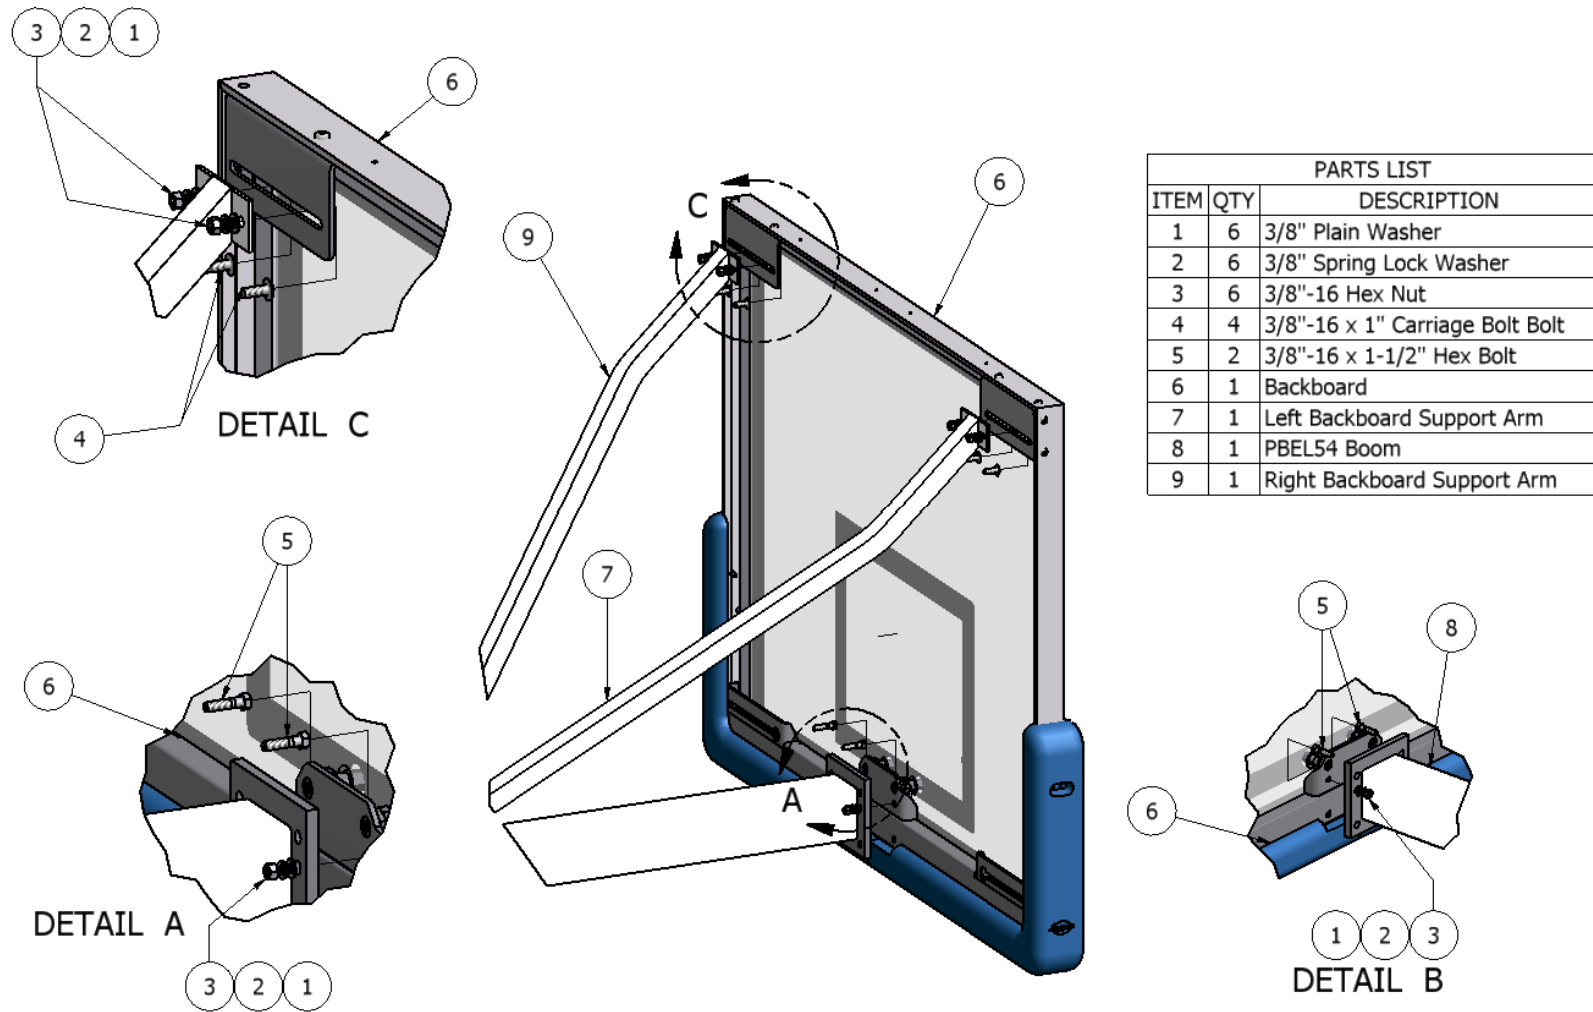

Figure 6-5: Installation of backboard to boom.
- Insert 3/8" -16 x 1 1/2" hex bolts (2X), 3/8" flat washers (2X), and 3/8" split washers (2X) into middle row of holes in backboard mount (Figure 6-5, details A & B).
- Attach the backboard support arms to the slots in the top of the backboard frame using the 3/8" -16 x 1 1/4" carriage bolts (2X), 3/8" split washers (2X), 3/8" flat washers (4X), and 3/8" flanged nuts (2X) as shown in Figure 6-5 (detail C). Hand-tighten the nuts.